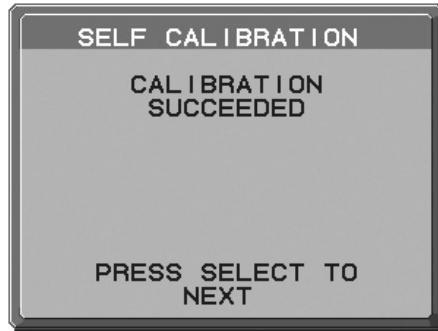

Figure 6
- After the CALIBRATION SUCCEEDED message appears (**Figure 6**), press SELECT. To end the calibration mode, press "EXIT".